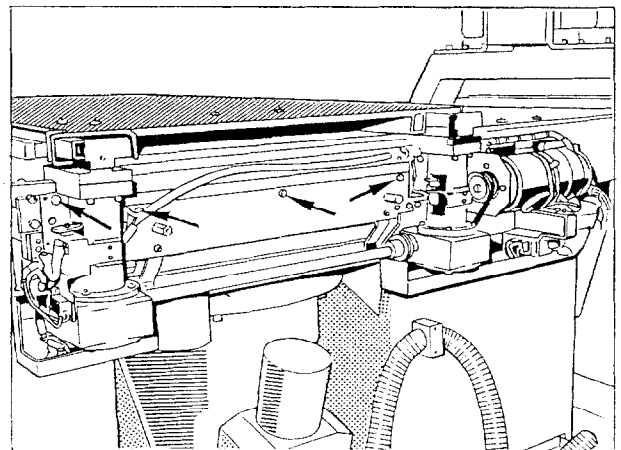

Fig. 8
- Unscrew the table transverse carriage (6 hexagonal screws, 2 behind the motor and 4 see ↗/ Fig.8).